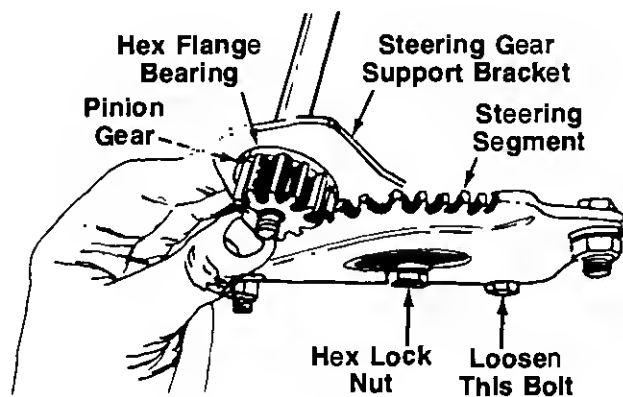

FIGURE 5.
6. **Model 13504:** Insert the steering shaft with assembled parts through the steering housing cover. The lower end of the shaft should extend through the hole in the front end of the steering gear support bracket (Ref. No. 12 on page 28). See figure 5.
8. Place hex flange bearing, flat side down, over the end of the steering shaft, and seat it into the steering gear support bracket. See figure 5.
12. Make certain the hex lock nut which secures the steering segment to the steering gear support bracket (shown in figure 5) is tightened so there is no play between the two parts. Do not over-tighten as the steering segment must be free to turn.